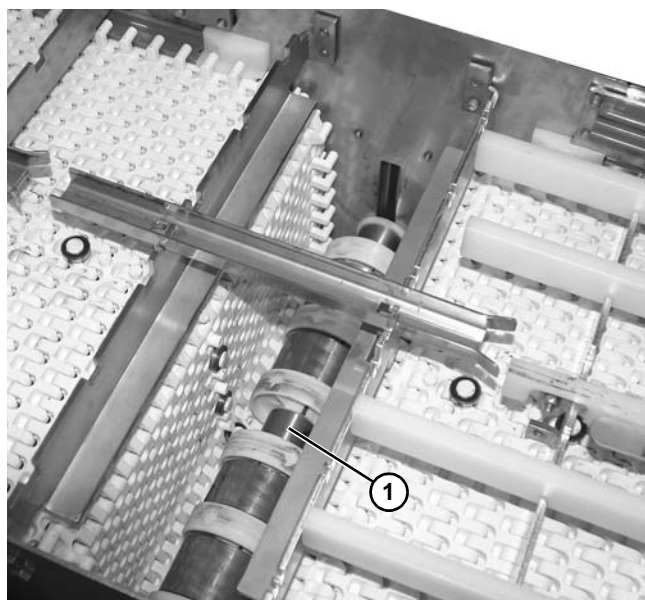

Figure 106
8. Continue feeding belt around the gravity take-up (Figure 106, item 1).